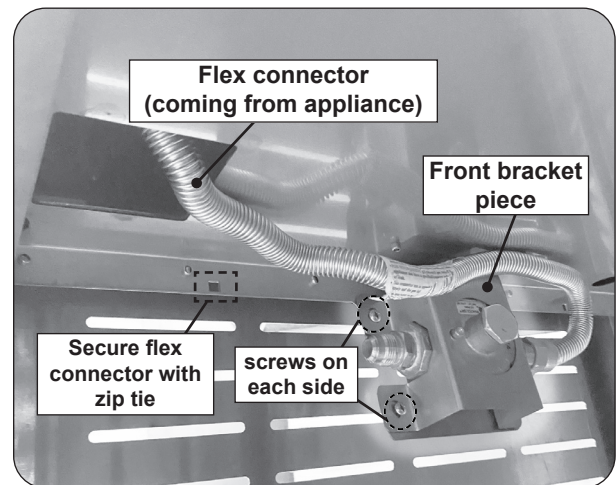

Fig. 11-3 Fasten regulator to interior wall
2. Detach the front bracket piece and retain the four screws and four nuts (see Fig. 11-3).
4. Position the front bracket piece onto the regulator (see Fig. 11-3). Use the screws from the mounting bracket to secure the regulator to the inside of the cart base cabinet (see Fig. 11-3).
- Place the bottom of the L.P. cylinder into the tank collar and secure the cylinder into place. See Fig. 11-3.